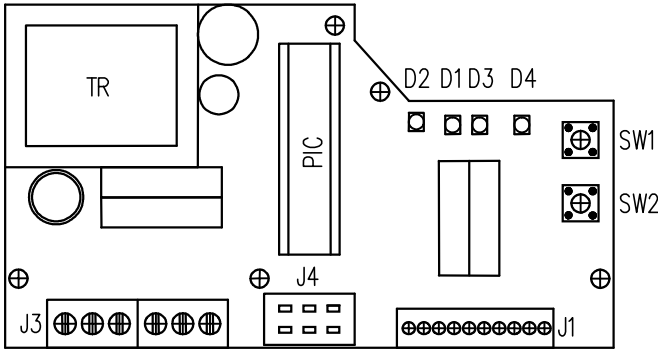

Fig. 9
**4.7 Adjustment of position controller (Fig. 9)**
Laying of adjusters and signalling elements on the board of the REGADA controller is shown on Fig.9: